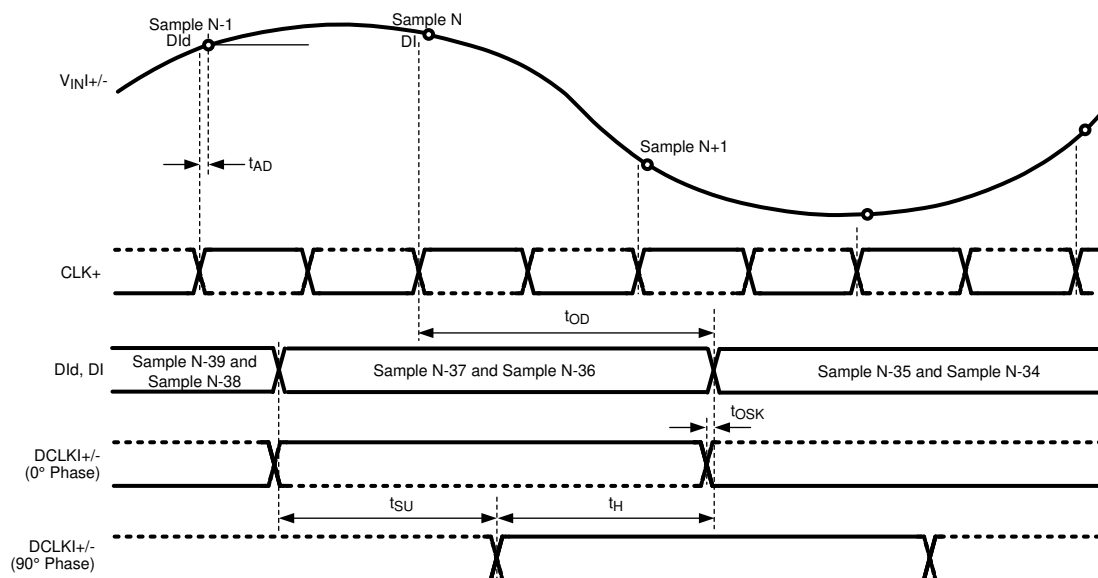
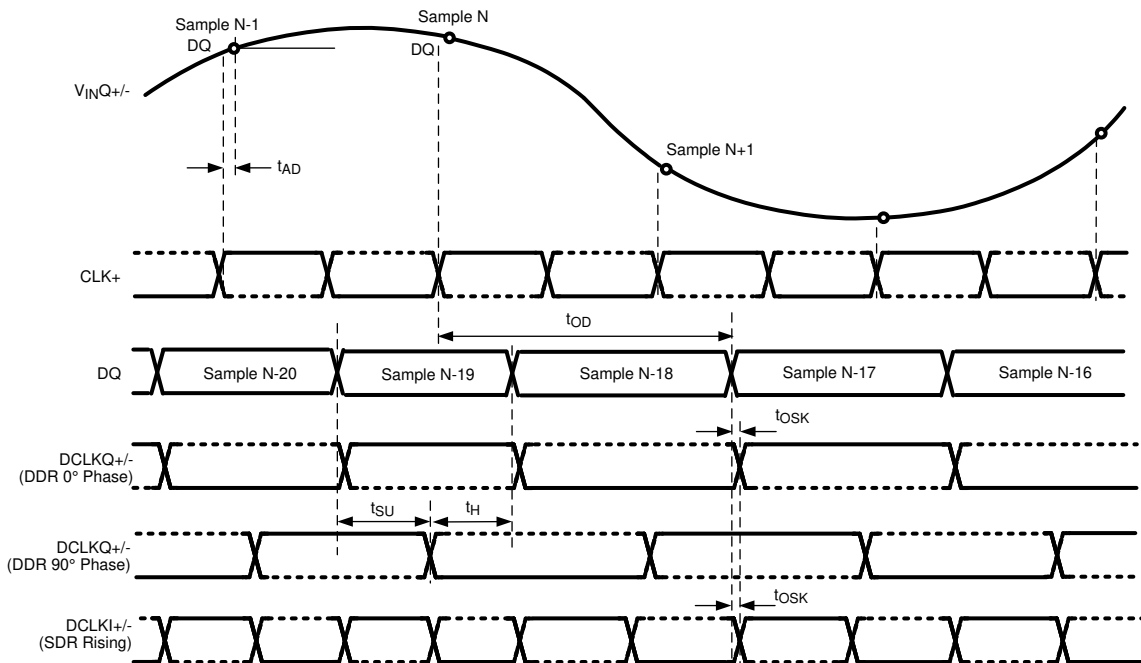

Figure 6-1. Clocking in Non-LSPSM, 1:2 Demux, Non-DES Mode*
Figure 6-6. Clocking in LSPSM, Non-Demux Mode, Non-DES Mode*
* The timing for Figure 6-1 through Figure 6-6 is shown for the one input only (I or Q). However, both I and Q inputs may be used. For this case, the I channel functions precisely the same as the Q channel, with V_{inI} , $DCLKI$, DId , and DI instead of V_{inQ} , $DCLKQ$, DQd , and DQ . Both I and Q channel use the same CLK .